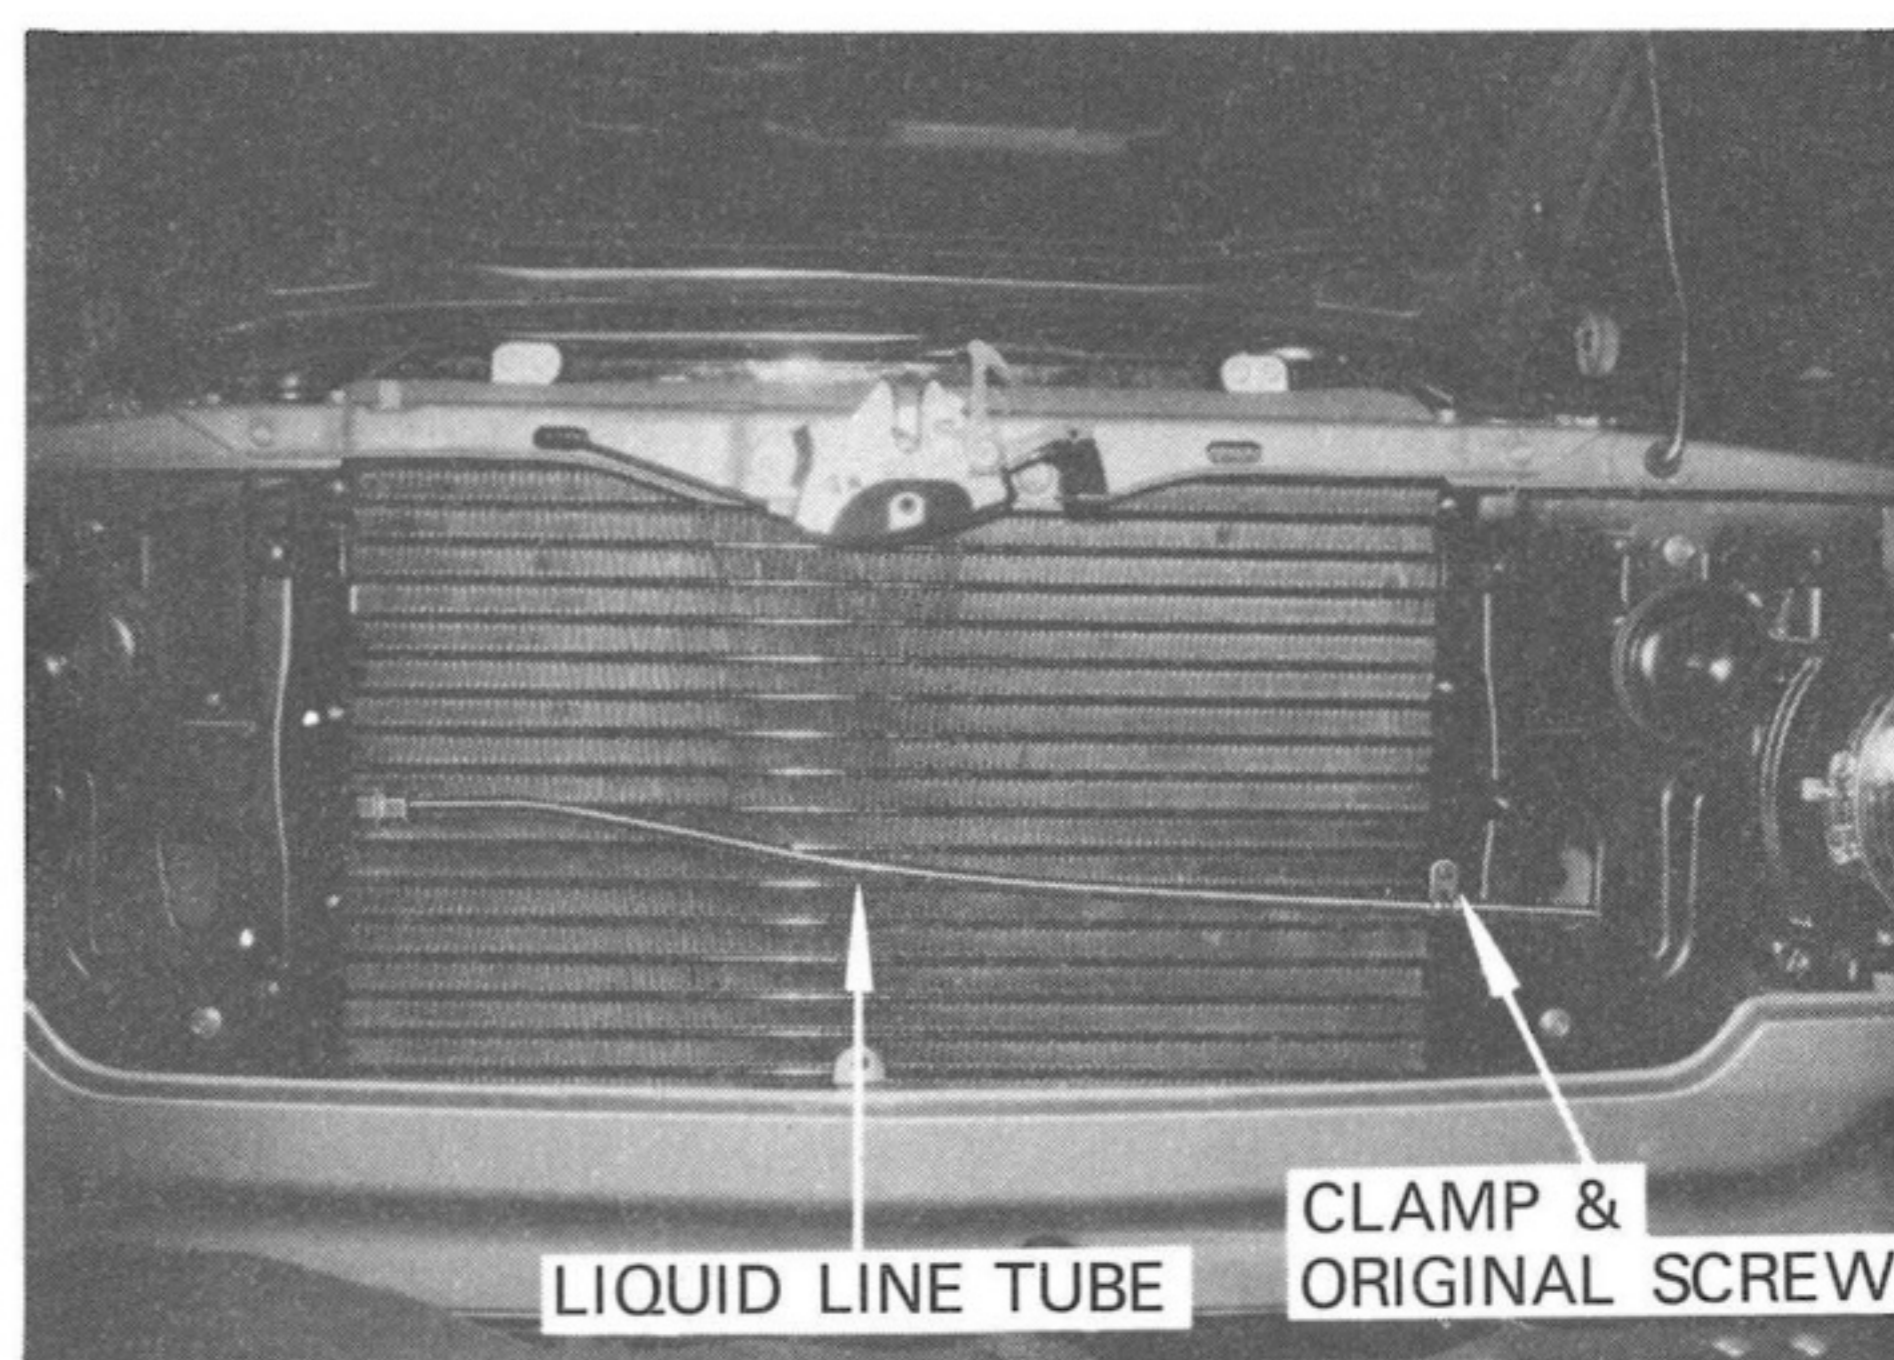

Fig. 3-1
- B) Fasten the liquid line tube using a tube clamp and original screw as shown in Fig. 3-1.